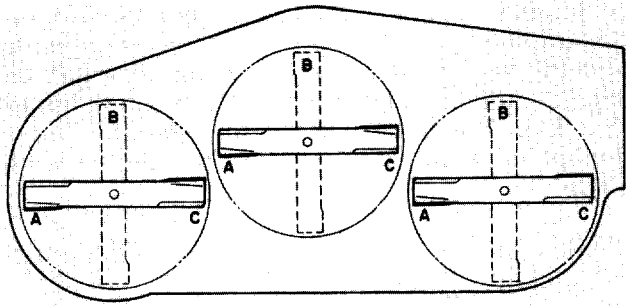
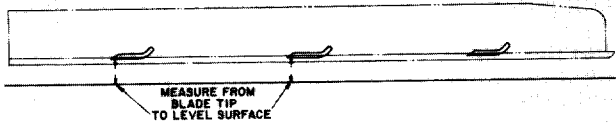

Figure 15
Figure 16
4. Position all three blades in the "A" position (Fig. 16) and measure from level surface to the bottom of the tip end of each blade (Fig. 16).
5. Note measurement attained at "A", rotate blades to "B" position (Fig. 15), measure distance of all blades to level surface and note dimensions (Fig. 16).
6. Rotate blades to "C" position, measure and note distance measured (Fig. 15, 16).
B. Transfer one thrust washer from top side of castor shaft to lower side, install castor assembly and compare blade height of all blades; refer to items 3 through 7. Continue adding thrust washers if height still does not meet requirements.
C. If cutting unit is operated at 2 to 4 in. (51 to 102 mm) height-of-cut, lower the high side of cutting unit. Remove lynch pin of castor at high end of unit and remove castor assembly (Fig. 15).
D. Transfer one thrust washer from lower side of castor shaft to top side, install assembly and compare blade height of all blades; refer to items 3 through 7. Repeat procedure if height still does not meet requirements.